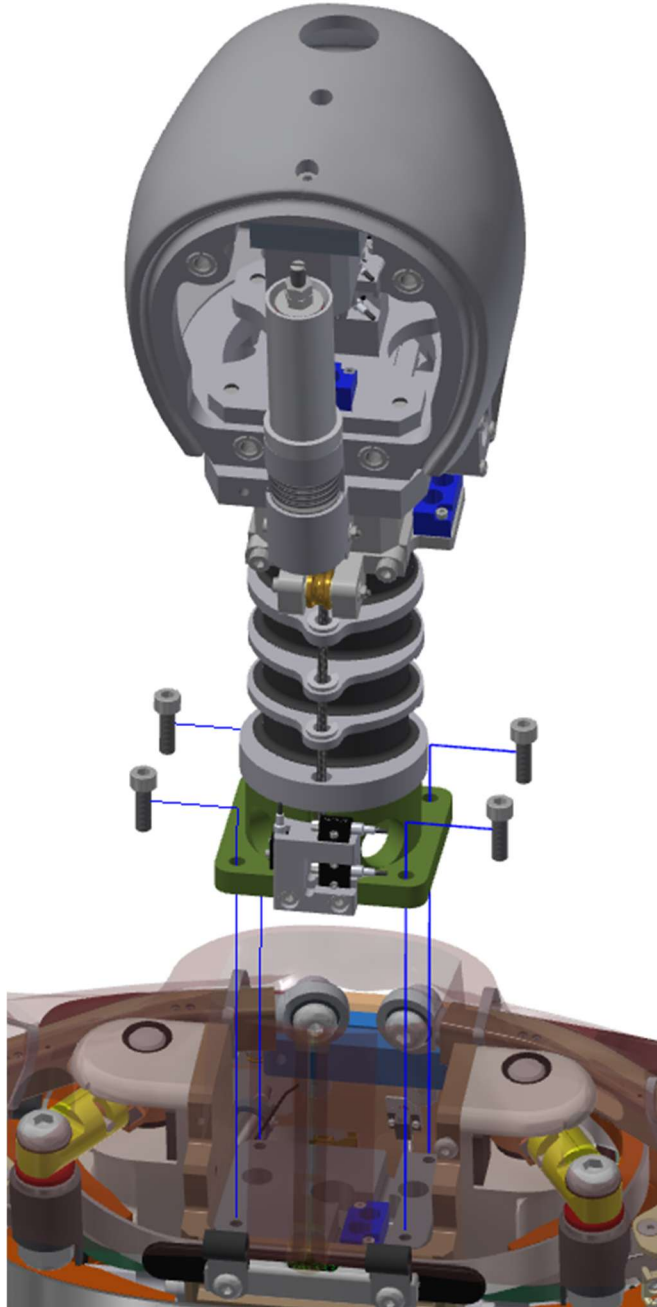

Figure 3-6. Head, neck, and upper thorax
- 3.2.5 Remove the neck from the torso by removing four M5 X 0.8 X 16 LG. SHCS from the spine assembly (474-3200) (Figure 3-6). Unzipping the shoulder pad (474-3559) can provide better access to the screws. Lift the head and neck assembly up from the torso.